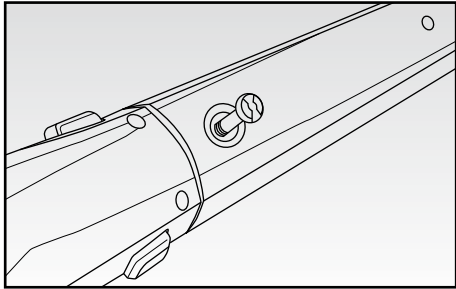

Fig. 3
- insert the supplied screw (S) into the apposite hole on the handle (B) and, by means of a screwdriver, tighten it (Fig. 3).